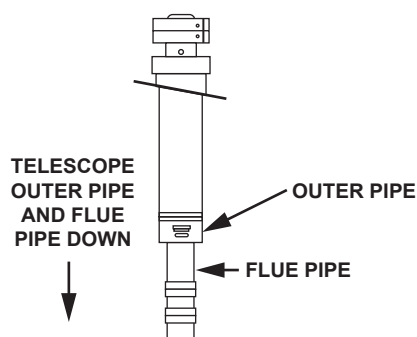

Figure 28: Roof Jack Placement
3. Telescope down the outer pipe of the roof jack assembly to a length that will project at least 2" (5 cm) below the finished ceiling before installing the roof jack assembly. See Figure 28.